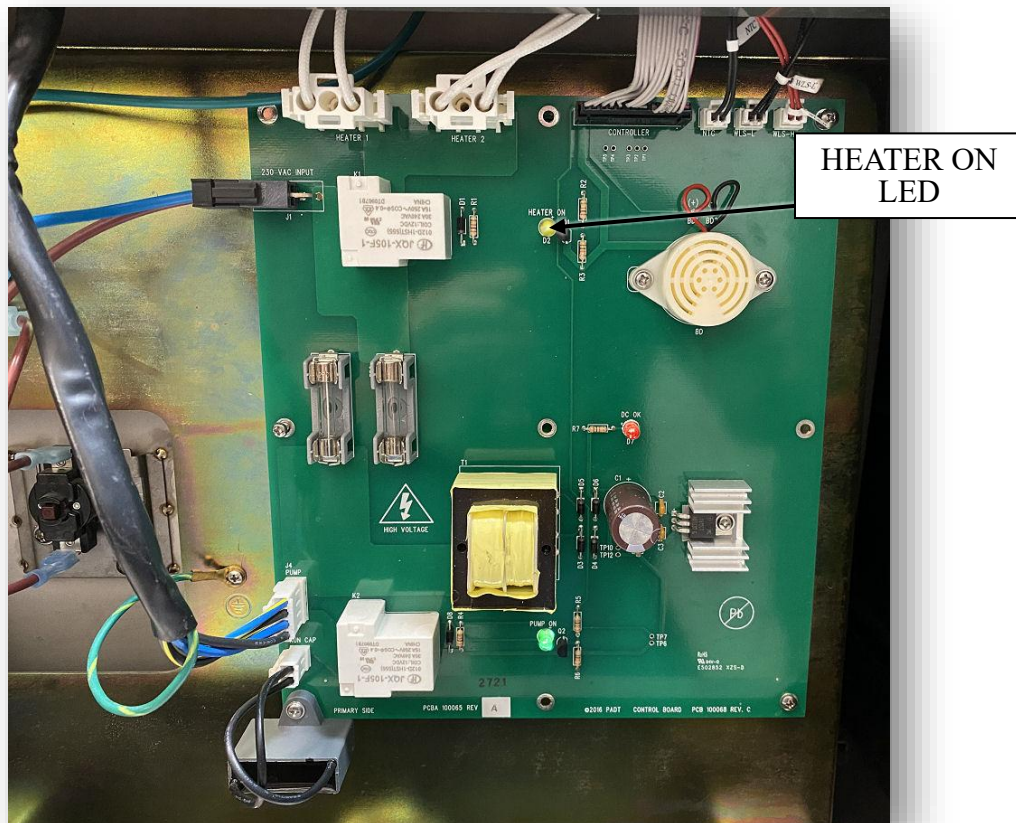

Figure 29 – HEATER ON LED
- c. Power on the SCA, select a temperature and press the Start Button  on the Control Panel. The “HEATER ON” LED (See Figure 29) illuminates when a temperature has been selected, and the Start Button is pressed (provided the temperature of the bath does not equal the current Set Temperature).